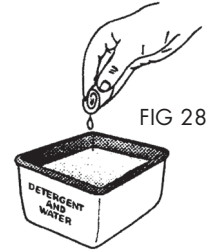

FIG 28
3. Wash the filter in detergent and water (Fig 28). Rinse the filter thoroughly and allow it to dry.